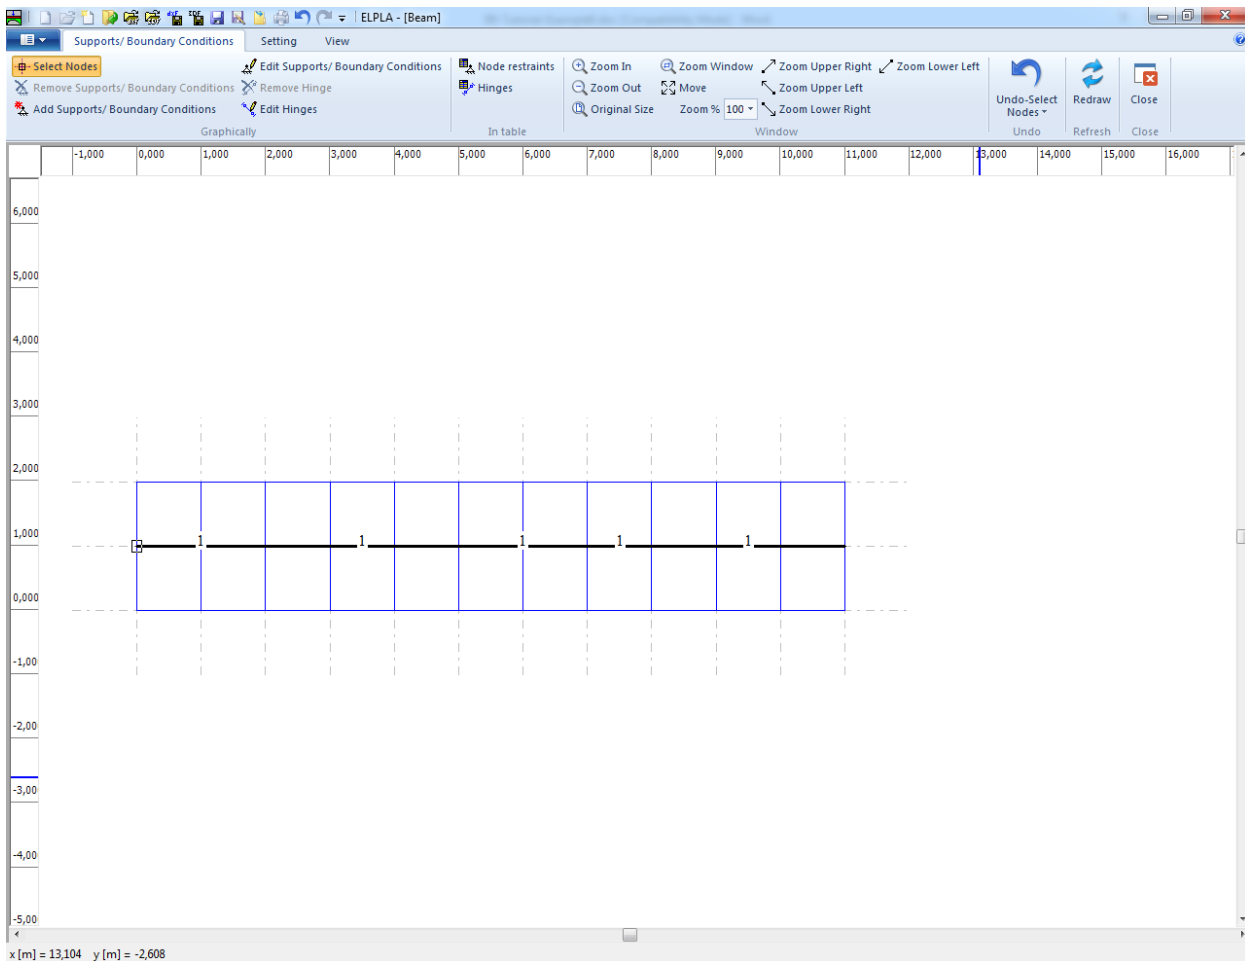

Figure 8.21 Selection of fixed support node
- Click the left mouse button on nodes that have the fixed supports as shown in Figure 8.21
- Choose "Add boundaries" command from "Graphically" menu in Figure 8.21